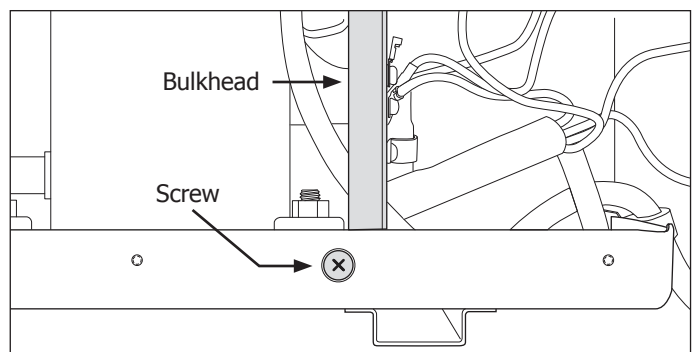

Figure 4-98.
6. Extract screw from lower left side of unit frame. Pull bulkhead from the unit. (See Figure 4-98)